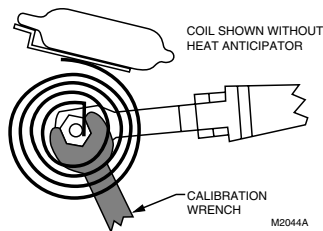

Fig. 4. Recalibrating the thermostat.
2. Insert the 104994A Calibration Wrench (ordered separately) onto the hex nut under the coil. (See Fig. 4.) Holding the setting lever so it does not move, turn the wrench clockwise until the mercury rolls to the right end of the tube. Remove the wrench and replace the cover.
7. Adjust the temperature setting lever so the mercury bulb is in position as shown in Fig. 4.